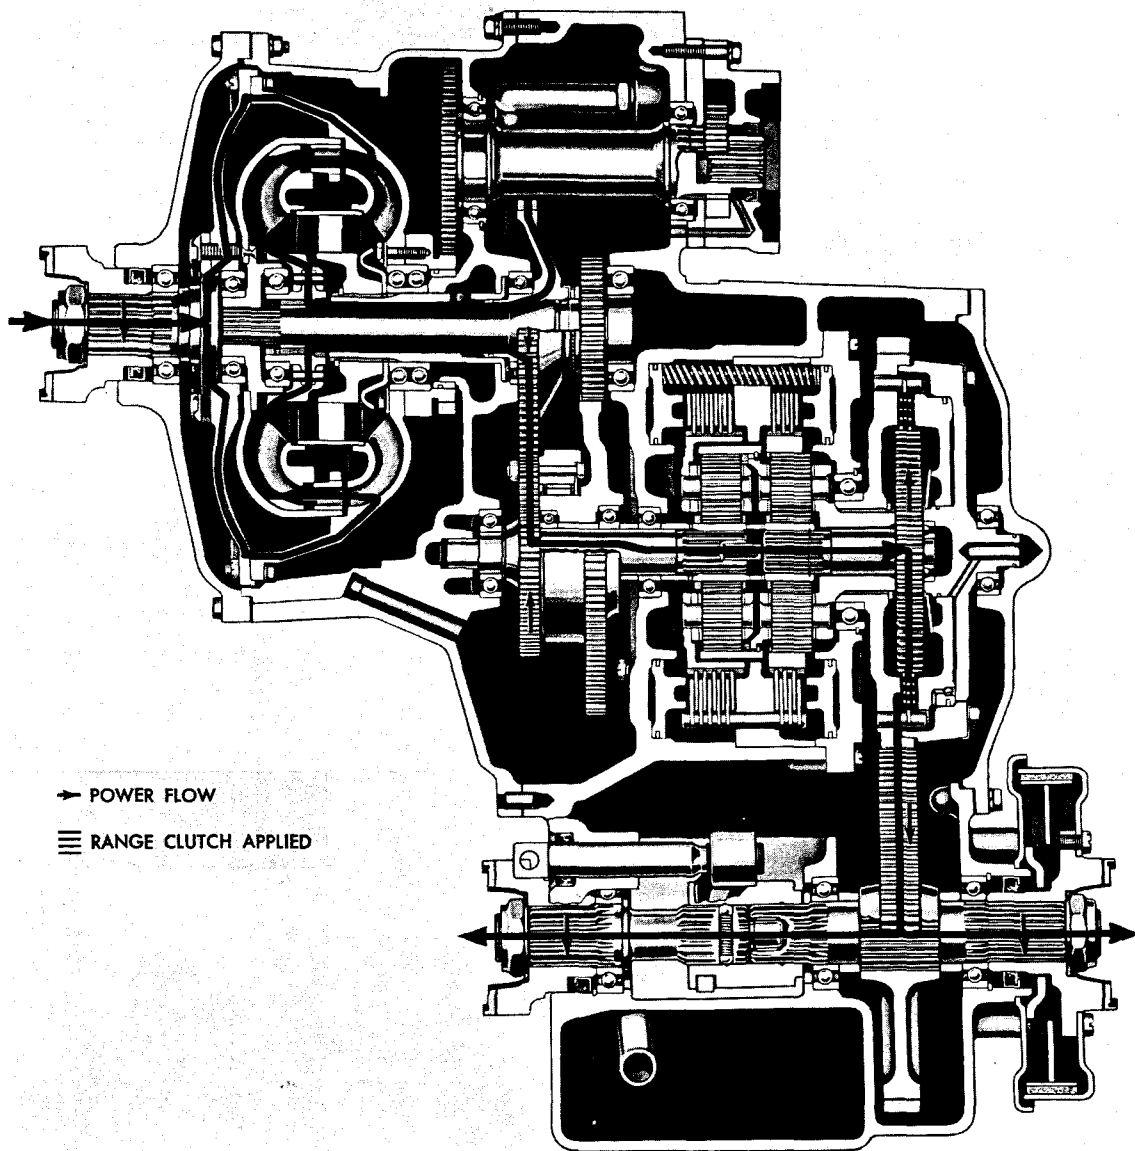

Fig. II-10. Forward-2, second turbine—torque path
a. Fig. II-10 illustrates the torque path through the transmission in forward-2 range under lighter load or higher speed conditions. The transmission of torque from the engine to